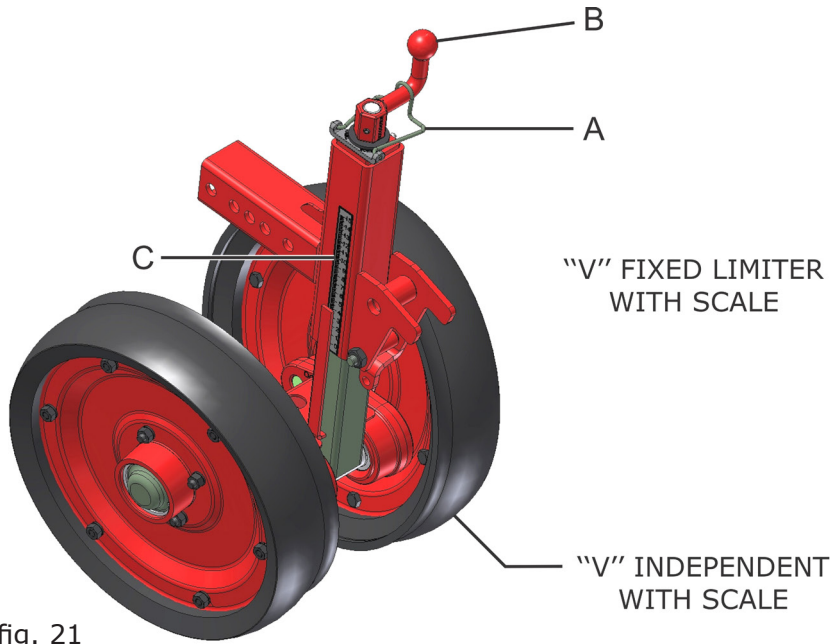

fig. 21
- 2- Relieve the lock spring (A) (fig. 21 and 22) and turn the knob (B) to the desired height on the indicator scale (C). Note that in all planting units, the scale indicator is in the same position;
- 3- Lock the knob again with the lock spring (A). For your guidance, the depth limits in relation to the double discs are from 0.2 in (minimum) to 5.5 in (maximum).